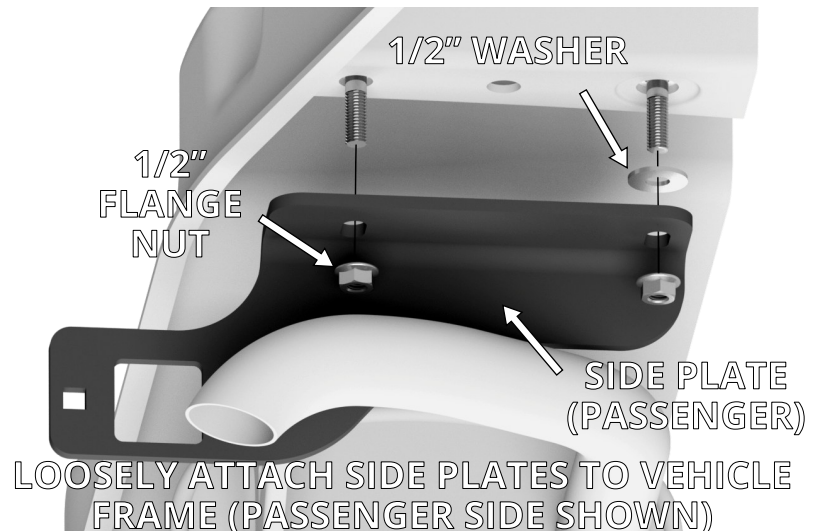

FIGURE B1: VIEW OF PASSENGER SIDE PLATE INSTALL
5. Attach each side plate to the vehicle using the two 1/2 x 2" carriage bolts that are positioned inside the chassis channels. A 1/2" flat washer should be placed between the side plate and the chassis channel around the forward bolt. Pass each side plate up over the bolts and secure them with two 1/2" flange nuts, as shown in Figure B1. Loosely attach bolts at this time.